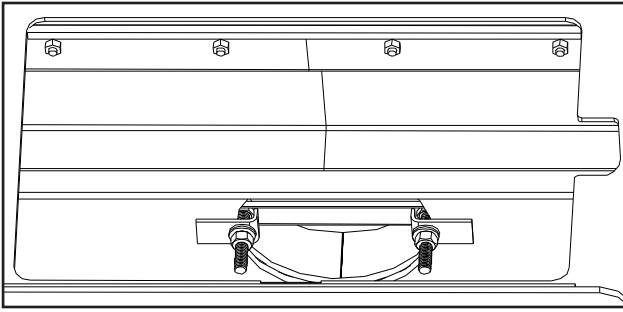

Figure 14: Removable flue collar in place.
- f)** Place the Collar Puller, over the two bolts of the Flue Collar and pull it into place (see Figure 14). Ensure that the bolts are to the left and right of the hole. If they are not, the front secondary air tube will need to be removed in order to install or remove the C-Cast Ceramic Baffles.
- h)** Re-install C-Cast Ceramic Baffles and the rear two (2) secondary air tube (see C-CAST CERAMIC BAFFLE INSTALLATION).